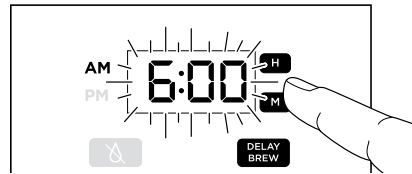

Fig. 18
- 3 Press DELAY BREW. DELAY BREW will illuminate and the clock will begin to flash "12:00" or the last Delay Brew time that was set (Fig. 18).
- 4 While the clock is flashing, press the hour (H) or minute (M) button to set the time that you would like the Delay Brew to begin. The AM or PM indicator will illuminate on the left side of the display as you are setting the desired time.